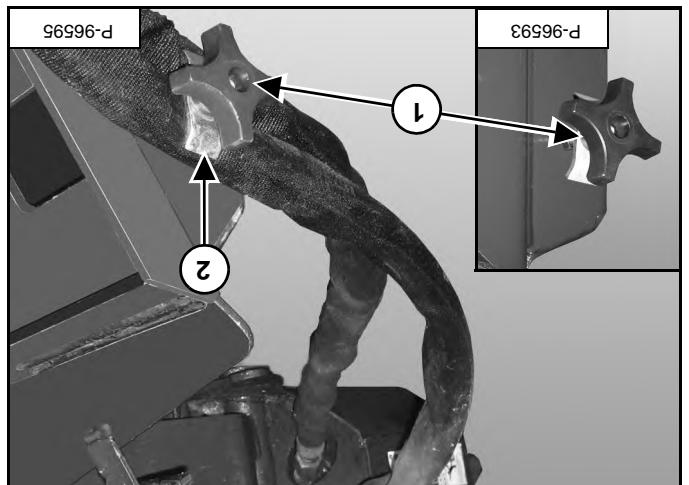

Figure 174
Place the auger hydraulic hoses between the clamp (item 2) [Figure 174] and auger mounting frame.
Loosen knob (item 1) [Figure 174] and clamp until there is adequate space for hydraulic hoses.